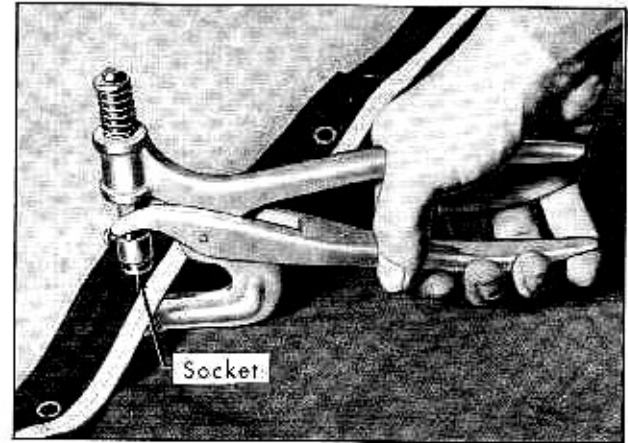

Fig. 3-13 Securing Fastener to Boot
7. Place boot material over button at marked location, then position fastener socket over chalk mark on material and squeeze handles of tool together until socket and button are securely attached to boot material. Fig. 3-13.